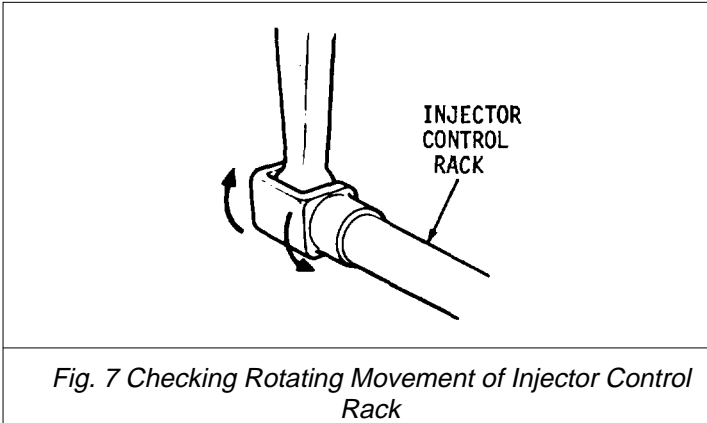
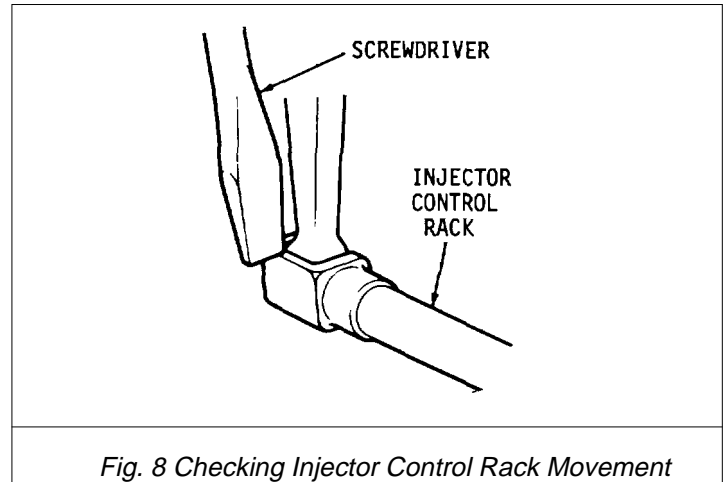

Fig. 7 Checking Rotating Movement of Injector Control Rack
Fig. 8 Checking Injector Control Rack Movement
- (4) To be sure of proper rack adjustment, hold the stop lever in the run position and press down on the injector rack with a screwdriver or finger tip and note the "rotating" movement of the injector control rack (Fig. 7) when the stop lever is in the run position. Hold the stop lever in the full-fuel position and, using a screwdriver, press downward on the injector control rack. The rack should tilt downward (Fig. 8) and when the pressure of the screwdriver is released, the control rack should "spring" back upward.